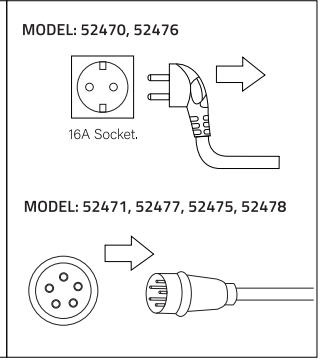

Figure 6
3. Disconnect the plug from the mains socket (fig. 6).